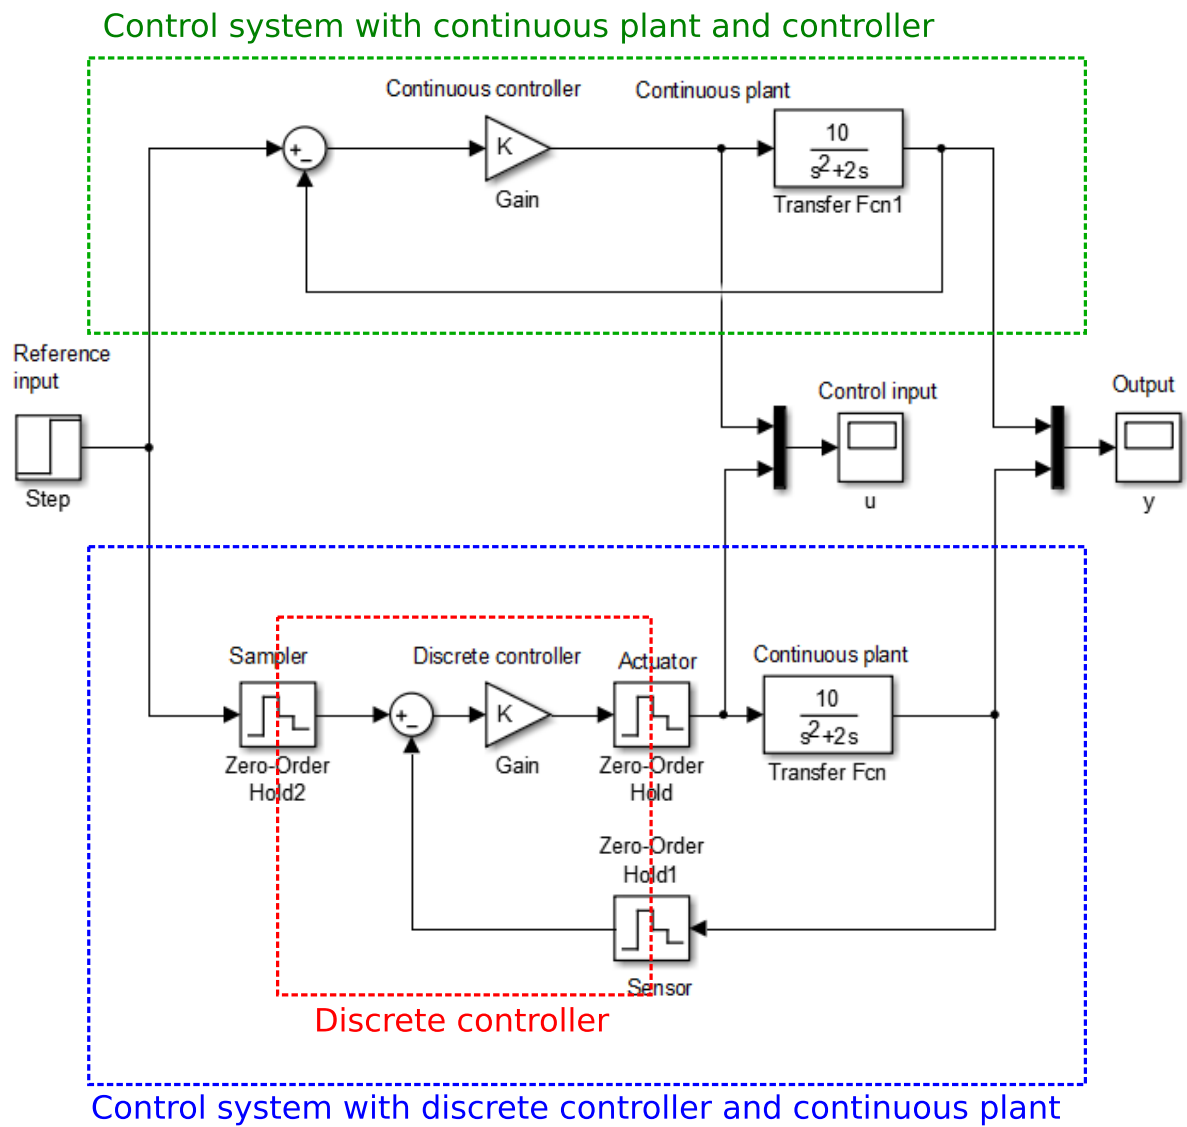

Figure 1: Simulink setup used in this practical
2. Build the continuous control system in Simulink (green block in Figure 1). Verify that the closed-loop system satisfies the specifications. If the gain  $K$  changes, will the closed-loop system ever become unstable? Explain your answer by referring to the root locus. Verify your answer by adjusting the gain  $K$  in the Simulink model and observing the closed-loop response. Reset the value of  $K$  before the next question.
3. To implement a discrete controller in Simulink, we have to be able to convert analogue signals to discrete signals, and discrete signals to analogue signals1. We implement both conversions using the *Zero-Order Hold* Block (in the *Discrete* Folder). Now build the control system with the discrete controller in Simulink (blue block in Figure 1). Use the same controller gain  $K$  as for the continuous controller. Set the sample period of the *Zero-Order Hold* Blocks to 0.1 s2. Note that all signals in the red block of Figure 1 are discrete.